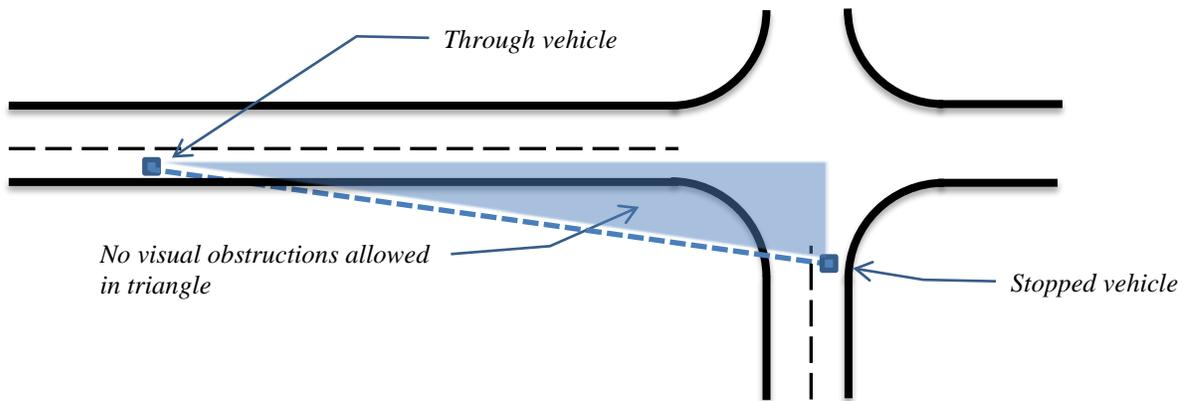

Figure 6. Basic intersection sight distance triangle.
- Intersection Sight Distance - some municipalities require a sight distance triangle to be depicted, see **Figure 6**.